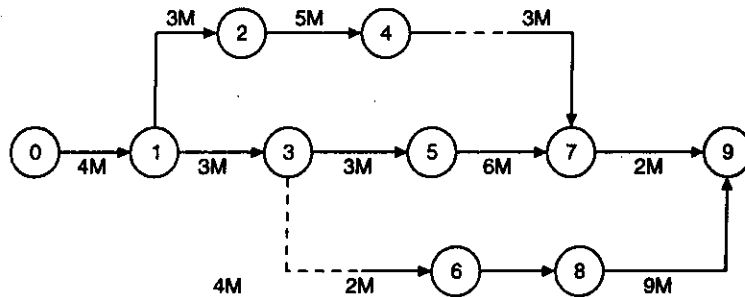
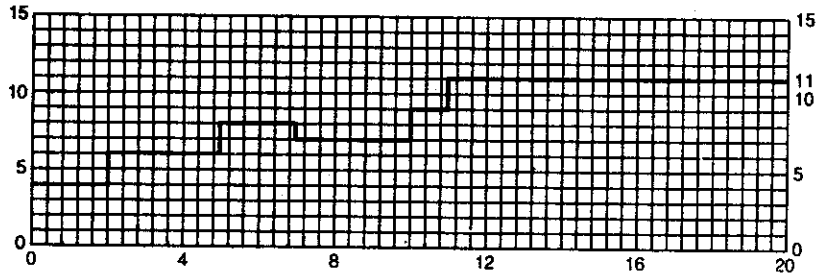

Fig. 8.71
Fig. 8.72
Step 5. The resource histogram for above network (*Fig. 8.71*) is drawn in *Fig. 8.72*, which indicates that maximum manpower required is 11 men. Hence with new schedule, the same project can be accomplished in the same duration of 20 weeks by 11 men as compared to 15 men for the previous schedule.